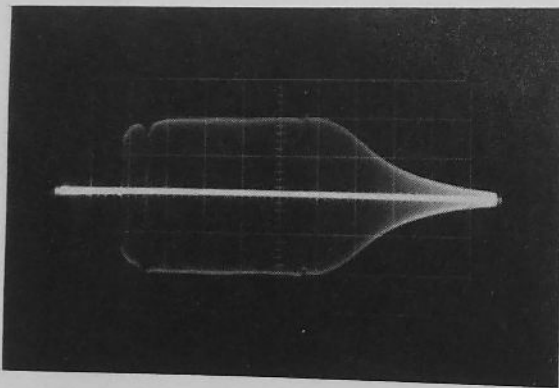

Figure 19. Output, Red, Marker at 5.5 MC
9. Adjust 1L9 and 1L10 for maximum flat response to 5.5 mc as shown in Figure 19.